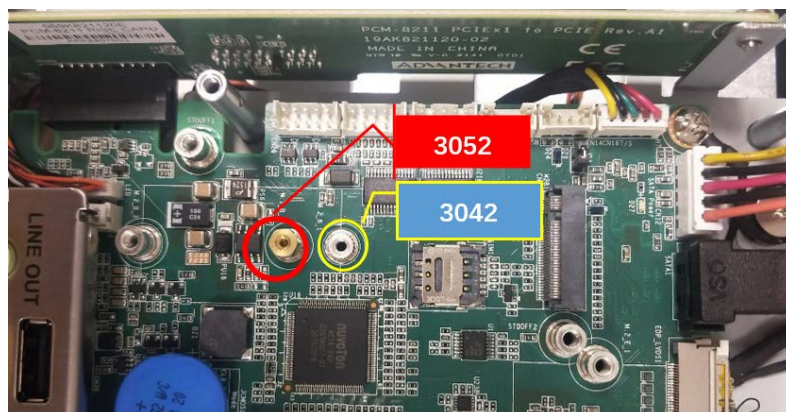

Figure 2.24
2. Add a copper cylinder screw (see Fig. 2.24) provided in the accessory box. Then insert the M.2 card into the correct mainboard slot, and affix it in place using one of the M2.5 x 3L screws.